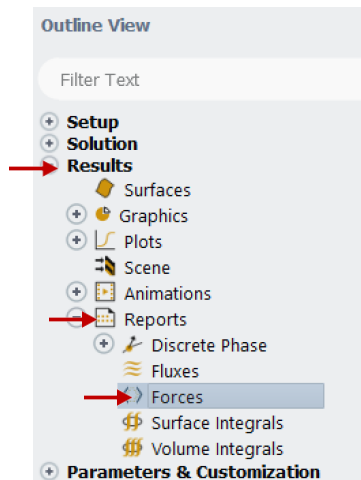

Figure 22. Selecting the Forces Report.
4.1. In the **Outline View** pane, expand the heading **Results > Reports**. Double-click on the “Forces” heading as indicated in Figure 22.